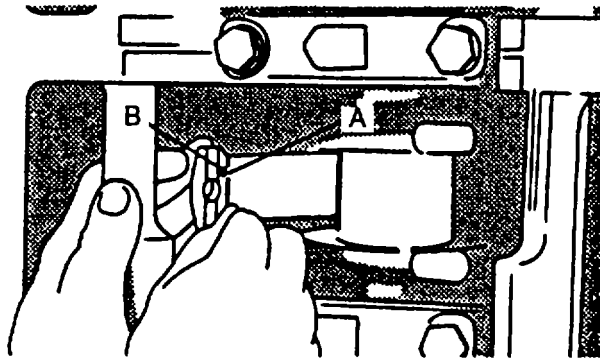

FIGURE 3-168. Installing Connecting Rod Bearing
- e. Install one bearing insert in connecting rod with tang (A, FIGURE 3-168) in groove (B). Put clean engine lubricating oil (MIL-L-2104) on insert and crankshaft journal. Carefully pull connecting rod with insert to crankshaft journal.